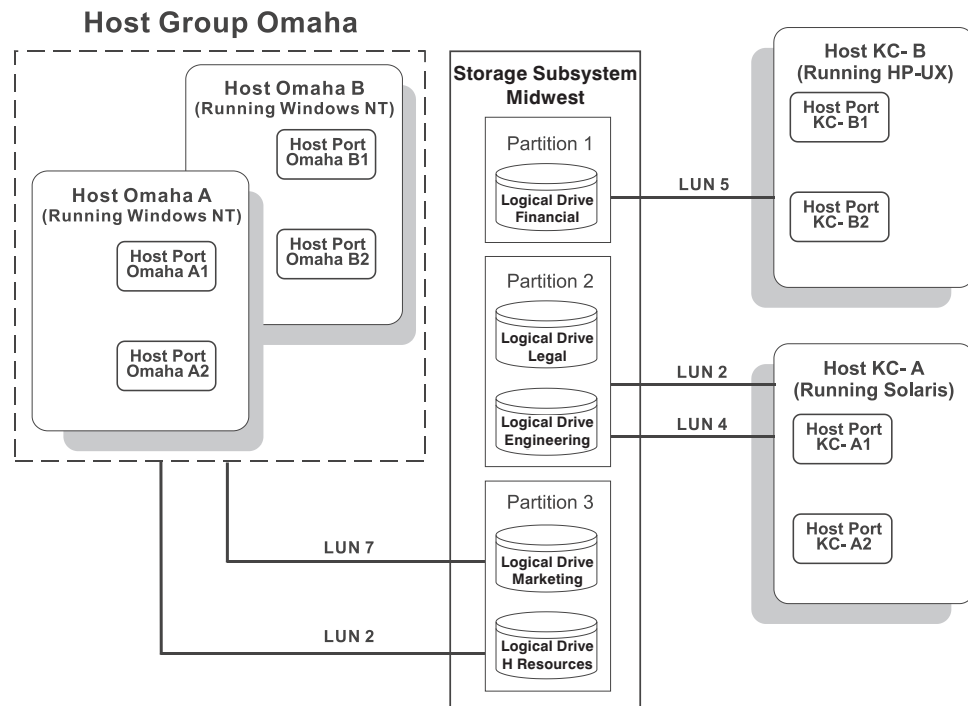

Figure 19. Heterogeneous hosts example
**Important:** The Heterogeneous Hosts feature is available only when storage partitioning is enabled. In Figure 19 on page 33, storage partitioning is enabled.
In the example shown in Figure 19, both storage partitioning and heterogeneous host computers are enabled on storage subsystem Midwest. Four host computers (Omaha A and B and KC-A and B) are connected to storage subsystem Midwest. In the example, host computers Omaha A and Omaha B have access to logical drives Marketing and HResources.